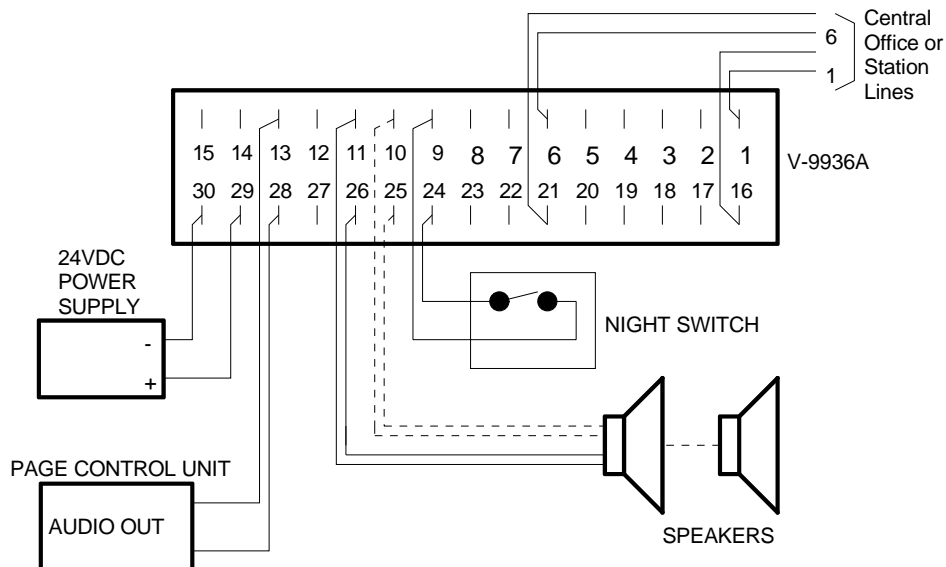

FIGURE 4 - RINGING OVER PAGING CONNECTIONS
- Proceed to Figure 4 for ringing over paging connections.